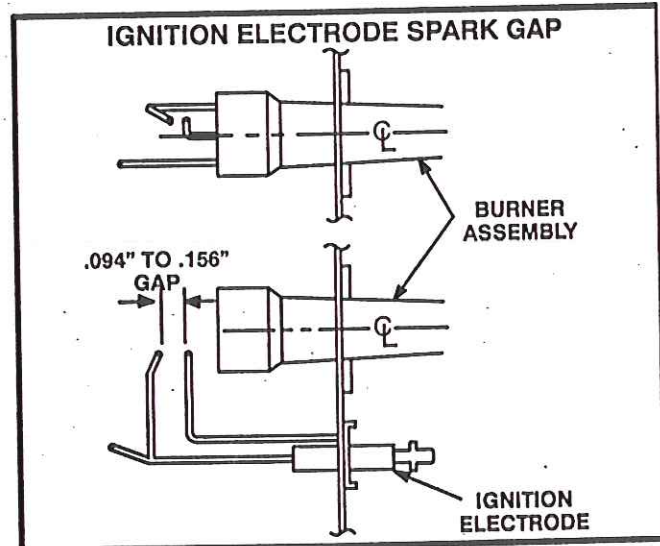

FIGURE 23
- 2- The spark gap on the ignition electrode must be 1/8" ± 1/32". The electrode assembly can be removed from unit by removing two screws securing the electrode assembly and sliding it out of unit. The gap can be checked using properly sized twist drills or feeler gauges. Refer to figure 23.